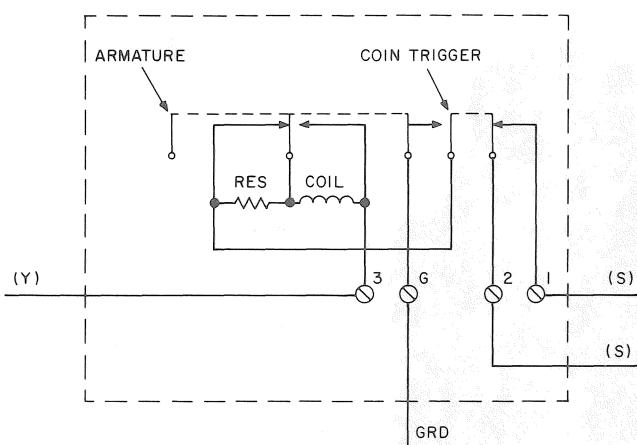

Fig. 28—Single-Coil, Slow-Release Coin Relay
5.32 The single-coil, slow-release, coin-relay switch assembly, in addition to ground and dial-shorting contacts, has a 3-spring break-make combination which functions to short-circuit either a resistor or the relay coil as shown in Fig. 28 and as covered in 5.41.
5.41 The slow-release feature is obtained by short-circuiting the coin-relay winding near the end of the operate stroke (Fig. 28). During the holding period the 1000-ohm resistor is substituted for the short-circuited relay coil. This protects the coin battery resistance lamps in the central office from a current surge and protects the coin-relay ground contacts from excessive arcing when they open while coin battery is still applied to the line. To prevent reoperation of the relay, the ground contacts are opened on the release stroke before the short circuit is removed from the relay coil.